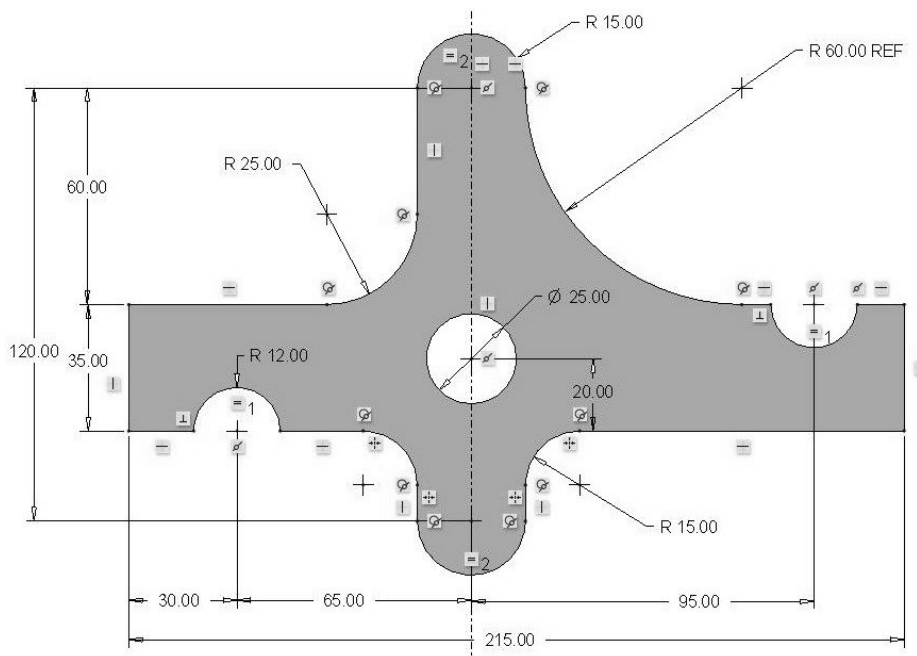

Figure 3-81 Problem 12—Ratchet Pawl
3.12 Challenge problem - Draw the "Ratchet_Pawl" (Figure 3-81). Design Intent—All arcs are tangent to each other or the straight edges. The R 12.00 arcs are centered along the horizontal lines. Pay close attention to the constraints shown. (>File>Options>Sketcher, change to 2 decimal places before sketching. *Pick OK.*)